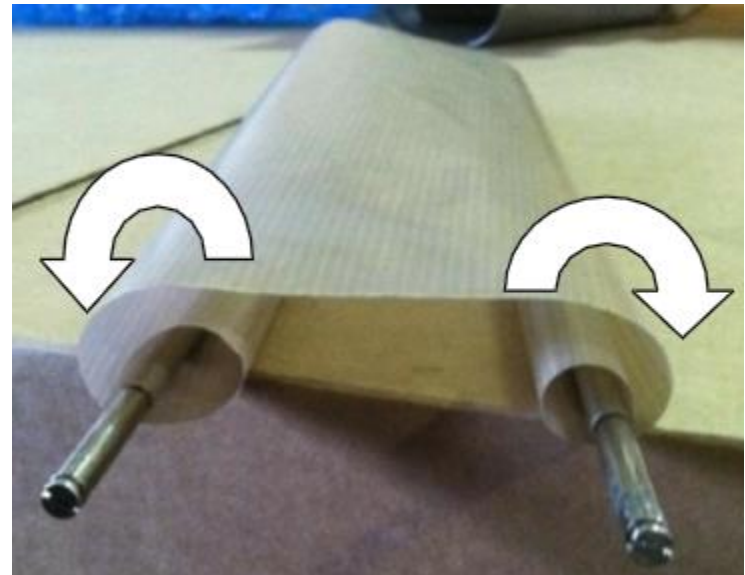

Figure 4-5
5. Repeat for the other end of the sheet. Be sure the Sheet wraps around the outside of both ends, See Figure 4-5.